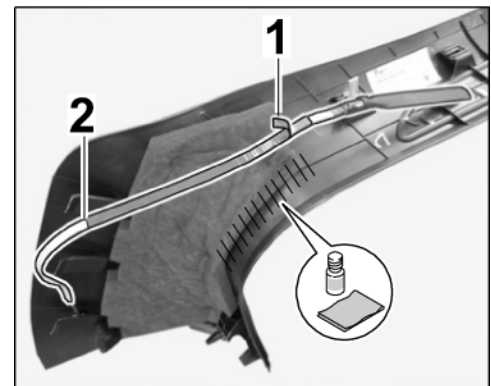

Figure 24
- 3.3.3 Clean the bonding areas for the flat conductor path (⇒ *Figure 24* -shaded area-) on the underside of the (inner) door sill trim using isopropanol to remove any grease and dust.
Pull protective film off the flat conductor path (⇒ *Figure 24*).